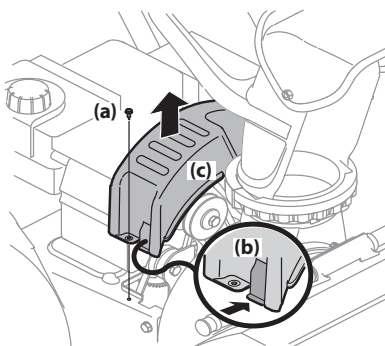

Figure 4-16
- Remove the self-tapping screw (a) shown in Figure 4-16, and press the plastic tabs (b) to release the belt cover (c). Pull the belt cover (c) up and out from around the engine and chute assembly. Set it aside and save.